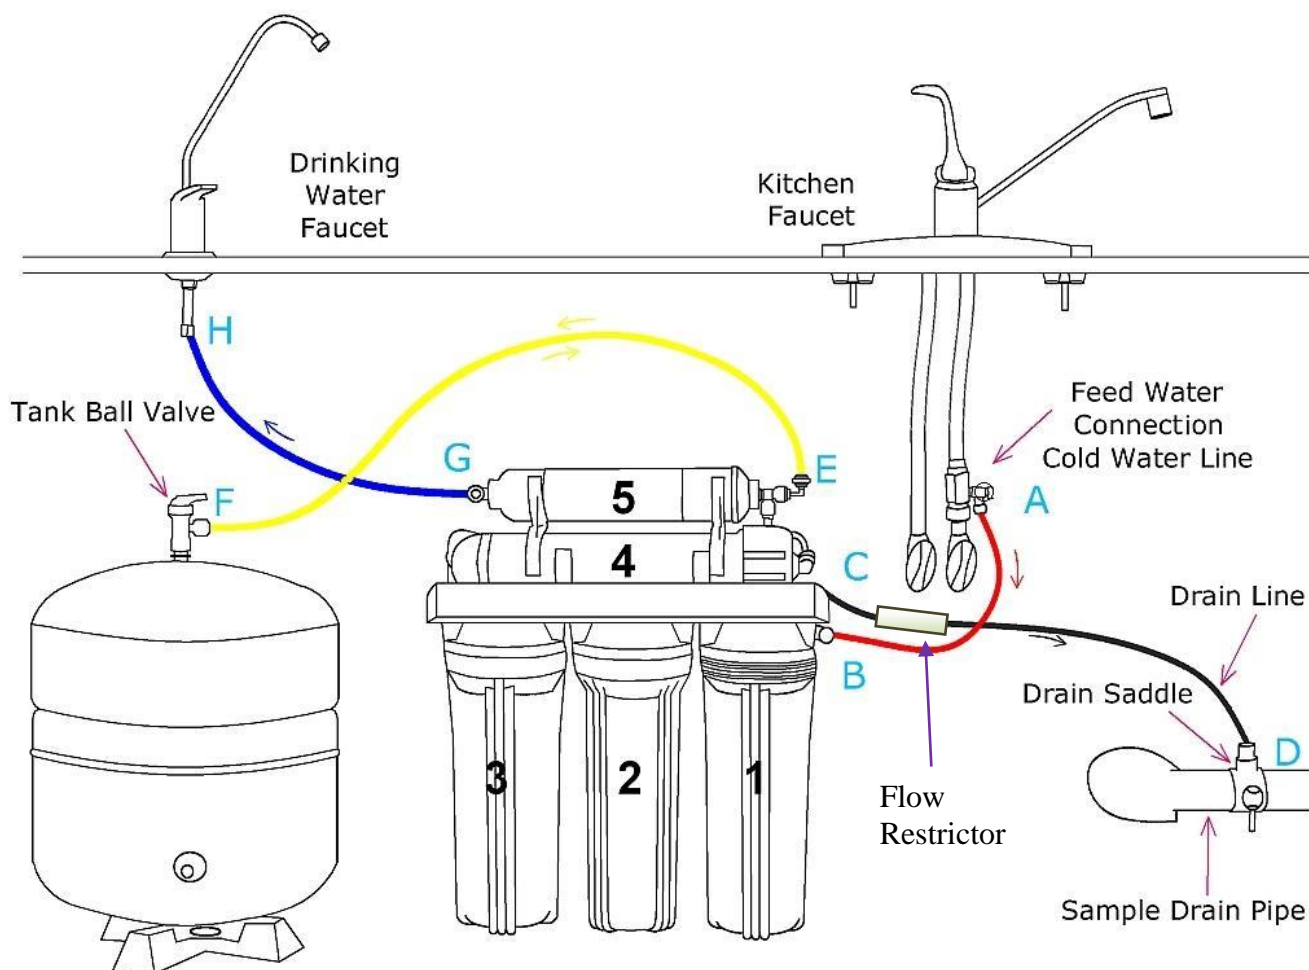

Figure 5
- 1.1 See Figure 5. Turn off the Cold Water Line via the Cold Water Supply Valve (CWSV) under the sink. Open the kitchen faucet to release any pressure and make sure the water has stopped before proceeding to the next step. Get a towel or bucket to catch any water drips. Disconnect the Kitchen Faucet Connector (KFC) pipe from the CWSV.
**Step 7: Tubing Hook Up (see figure 5 above to see letters not shown below)**